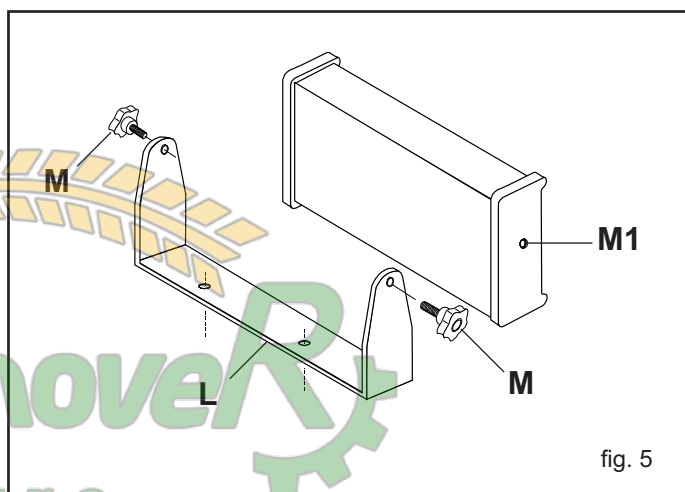

fig. 5
5.2 HOW TO ASSEMBLE THE COMPUTER (Fig. 5)
- on a flat surface inside the cabin of the vehicle, drill 2 holes (D. 9 mm) on the same line as the ones that are to be found on the fixing bracket (L Fig. 5);
- fix the Computer on the fixing bracket by means of the proper handles (M-M1 Fig. 5).